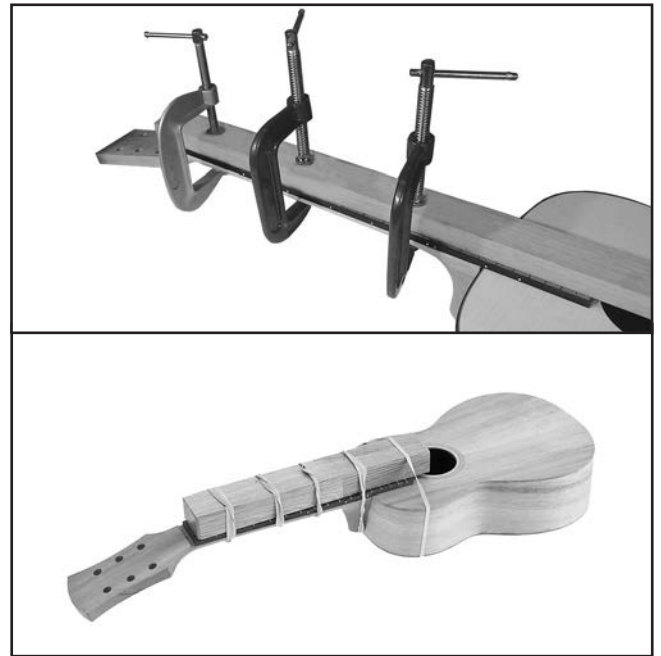

Figure 13. Fretboard secured to neck.
4. Secure fretboard position with C-clamps or rubber bands and wood stock, as shown in **Figure 13**. Use wedges if necessary to ensure a tight fit. Wipe off any excess glue with a damp, lint-free rag.